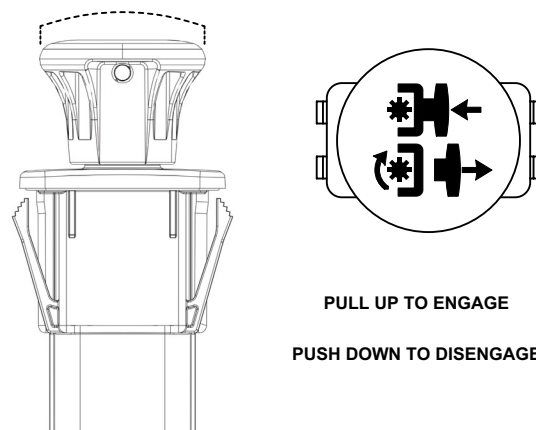
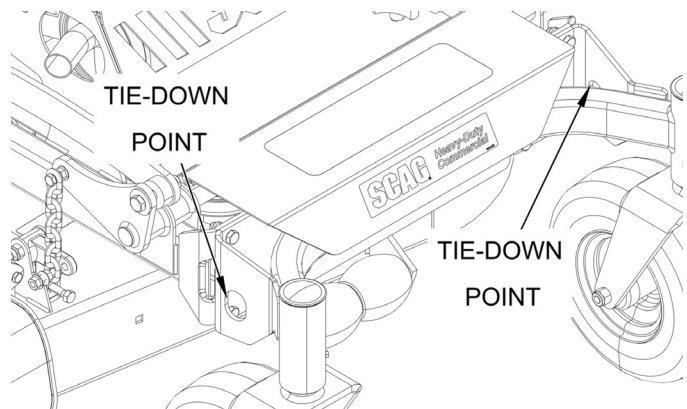

Figure 2-2. PTO Switch Function
Figure 2-3. Front Tie-Down Points
3. Engage the cutter deck by pulling the yellow PTO switch, located on the instrument panel, up. See Figure 2-2.
11. Tie the machine down securely using straps, chains, or cables. Both the front and rear straps must be directed down and outward from the machine. Refer to local ordinances for tie-down requirements before use. See Figure 2-2 and Figure 2-3.